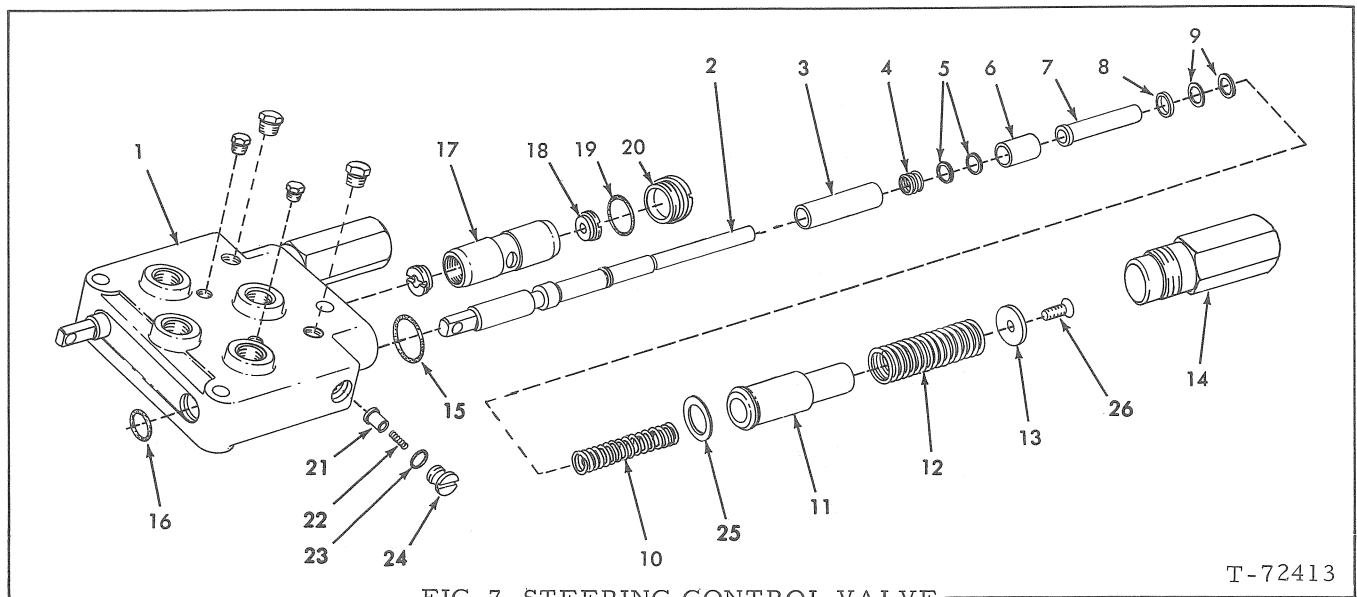

FIG. 7 STEERING CONTROL VALVE
Flow divider plunger stuck in one end of its bore. Remove plug, Fig. 7 (20) and check plunger (17) for free movement. Replace if necessary.
Power shift models--pressure relief valve, Fig. 7 (21), stuck closed. Remove plug (24) from affected side and replace defective parts.
Flow divider plunger not seating properly on one end. Remove plug, Fig. 7 (20) from rear of valve and check movement of plunger.
On power shift models, check for a defective relief valve, Fig. 7 (21), on affected side. On direct drive models, or if relief valve is O.K. on power shift models, disassemble control valve and check for a failure on affected side.
Remove operating plunger cap, Fig. 7 (14), on affected side. Remove screw (26) and slide parts off rear end of shaft.
Use shim, Fig. 7 (9) to change pressure during first .5" (12,7mm) plunger travel; use shim (5) to change pressure at .56" (14,2mm) plunger travel. Both shims are available in two thickness -- .005" and .015" (0,12 and 0,38mm). Add shims to raise pressure; remove shims to lower pressure. A .005" (0,12mm) shim, Fig. 7 (9), will change pressure approximately 2 psi (0,14 kg/cm2); a .005" (0,12mm) shim (5) will change pressure approximately 6 psi (0,42 kg/cm2). A .015" (0,38mm) shim at either location will give proportional pressure changes.
Remove left cap, Fig. 7 (14); remove screw (26) and washer (13) from end of operating plunger.
Pull operating plunger from front of body; remove O-rings, Fig. 7 (15) (16), from body. Remove shim (25) (if present) from bore.
Remove plug, Fig. 7 (20), from rear of body; tap body on bench to remove flow divider plunger (17).
Remove plugs, Fig. 7 (24), from each side of body; remove relief valve springs and plungers.
Use new housing O-rings, Fig. 7 (15) (16); lubricate before installing.
Clean and dry threads on plunger end screws Fig. 7 (26) and mating threads in operating plungers. Coat screw threads with "Loctite"; torque to 5 -- 8 lbs. ft. (0, 6-1, 1 kg/m).
Before installing valve check clearance between operating plungers and housing port, Fig. 8; clearance must be at least .020" (0, 50 mm) to allow fast re-engagement of steering clutches. If clearance is less than .020" (0, 50 mm) add shim, Fig. 7 (25) behind sleeve (11). If more than one shim must be added to obtain specified clearance, valve must be replaced.
**IMPORTANT:** Thickness of shim, Fig. 7 (25) is .010" (0,25mm); if shim is added to obtain clearance, add equal shims (5) under high pressure spring.